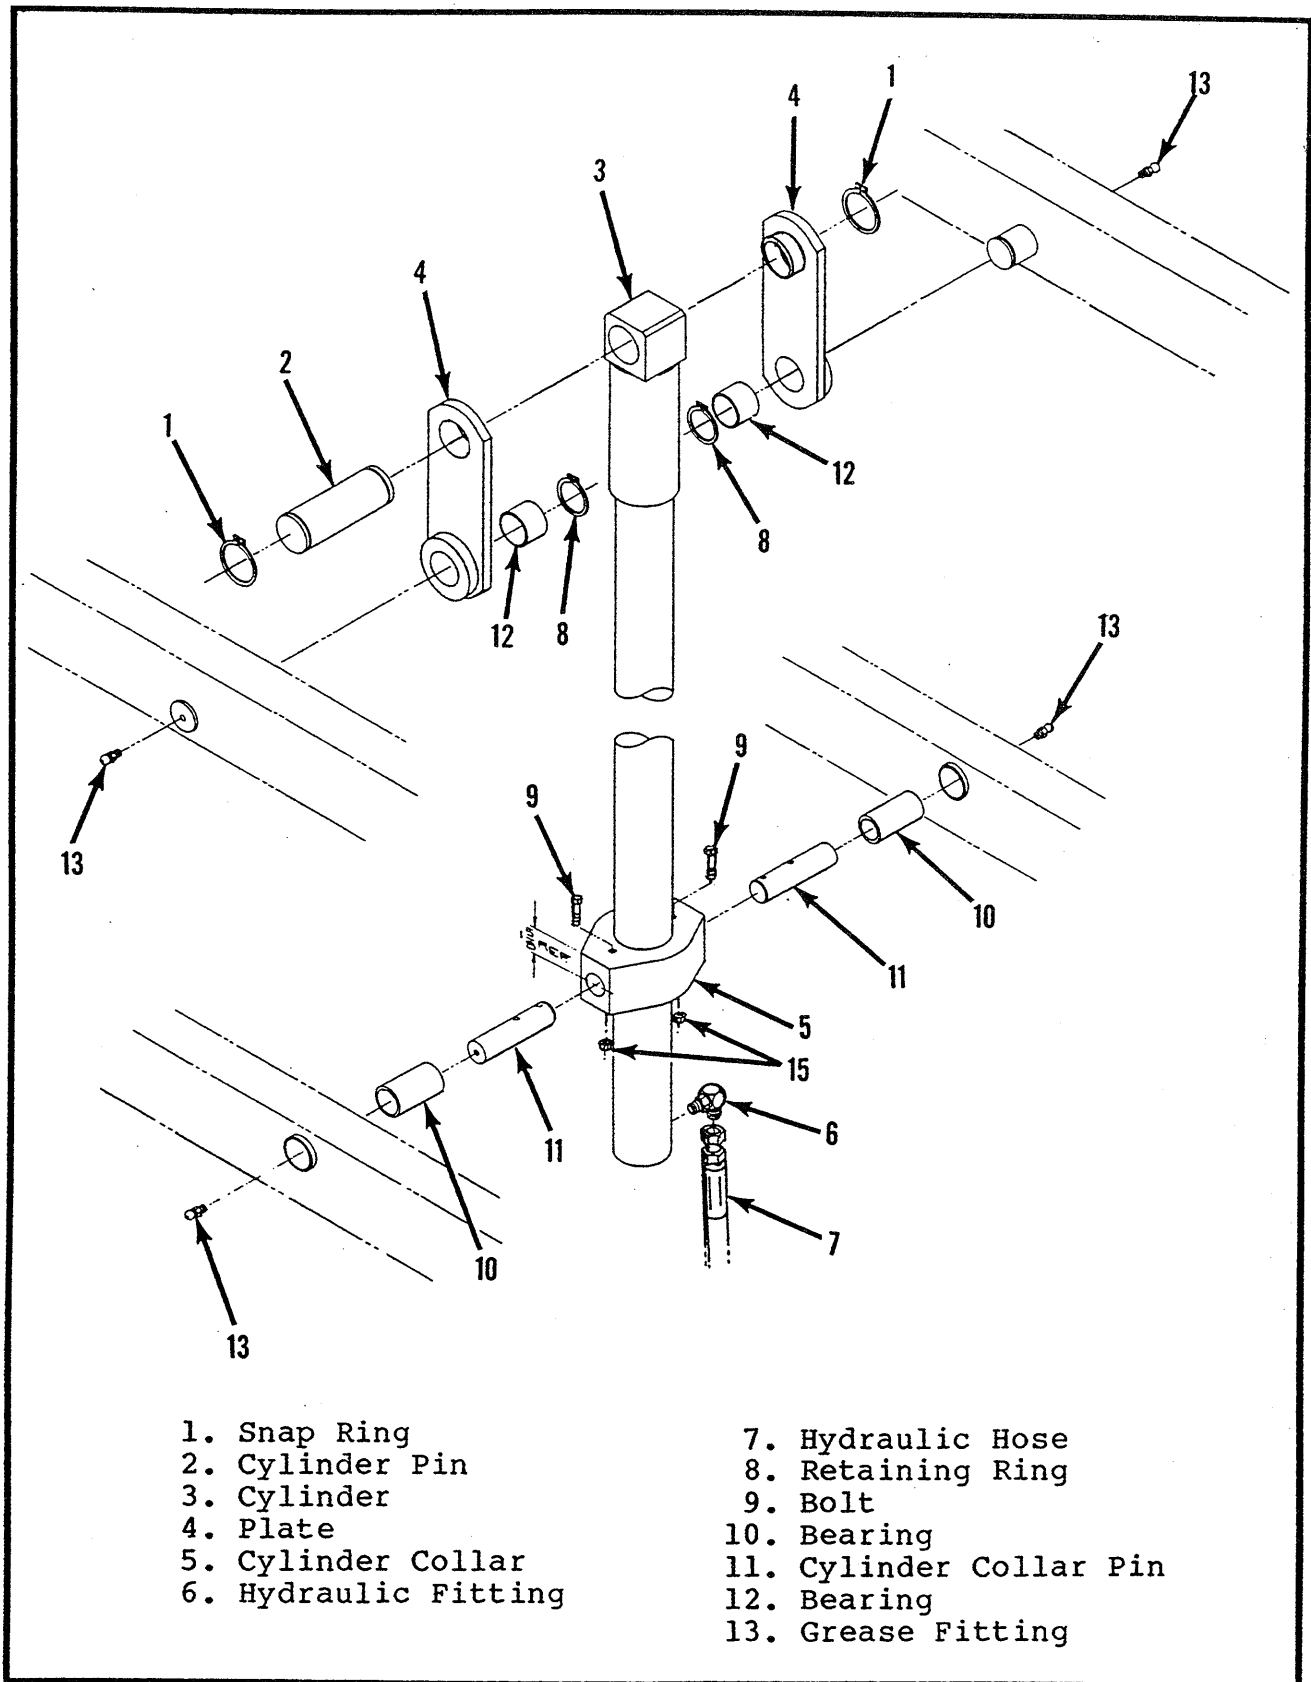

Figure 5-14. Lift Cylinder Removal
5-23. LIFT CYLINDER REMOVAL (Figure 5-14).
(5) Lubricate the rod tube and install in the barrel tube.
(6) Thread the gland nut onto the barrel tube and tighten securely.
(7) Install the bleeder screw assembly.
(8) Install the velocity fuse into the barrel tube port.
e. Installation (Figure 5-14).